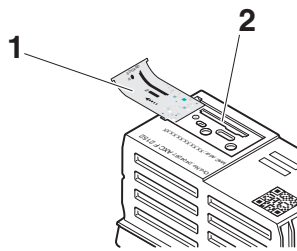
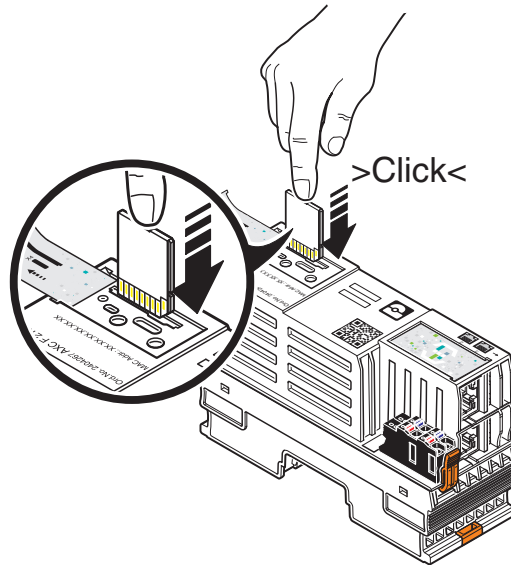

Figure 4-8 Removing the upper marking field
Figure 4-9 Inserting the SD card
- Remove the upper marking field of the controller (item 1 in Figure 4-8).
- Gently push the SD card into the SD card holder (item 2 in Figure 4-8) until it engages with a click in the SD card holder (see Figure 4-9, “Click”).